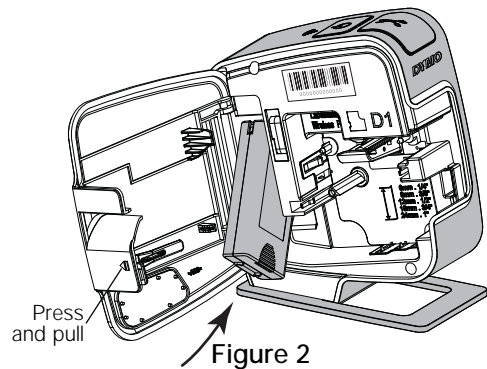

Figure 2
- 2 Insert the battery pack into the battery compartment as shown in Figure 2.